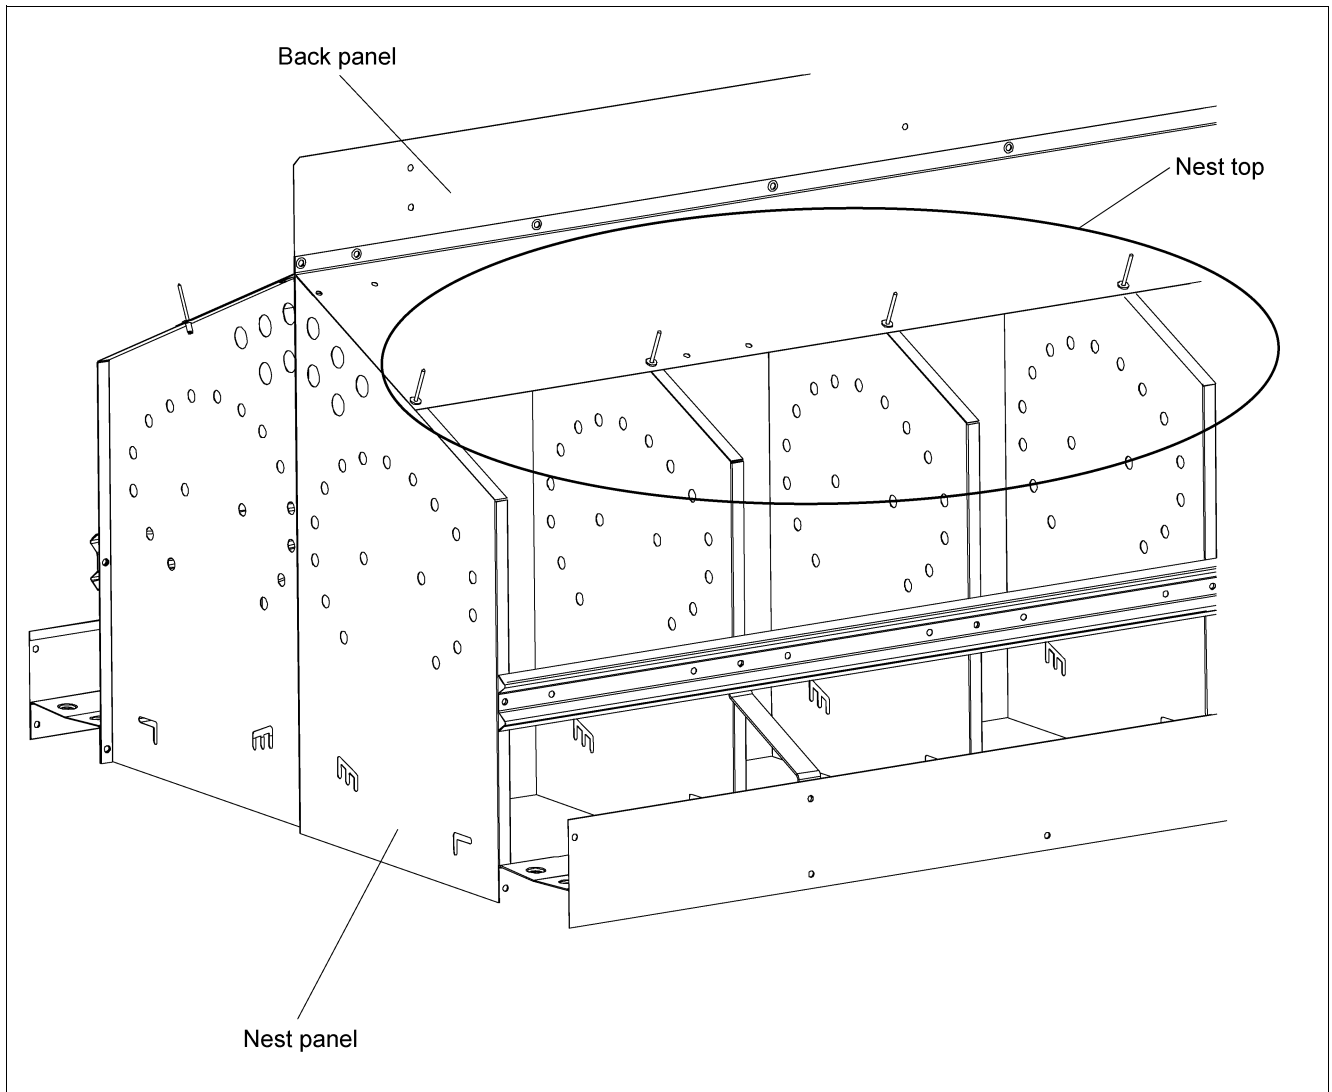

Figure 4H Nest Top Assembly
5. On both sides of nest, secure the nest top to the nest panels using eleven (11) **S-7222 (3/16" rivet diameter, 5/16" long aluminium rivets) aluminium rivets** per side (nine (9) per side for FRN16). Rivet only the bottom row of the nest top as shown. *(See Figure 4H.)*